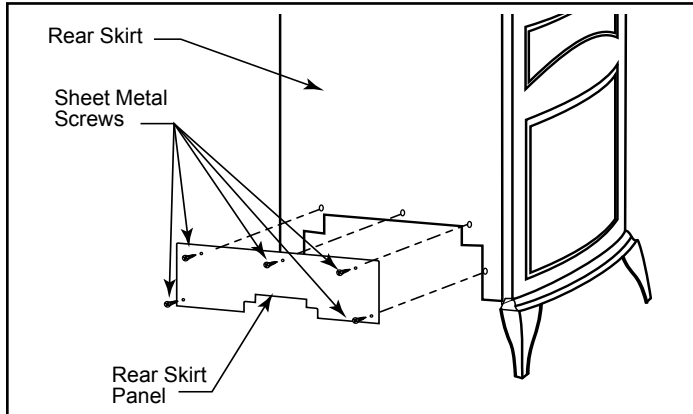
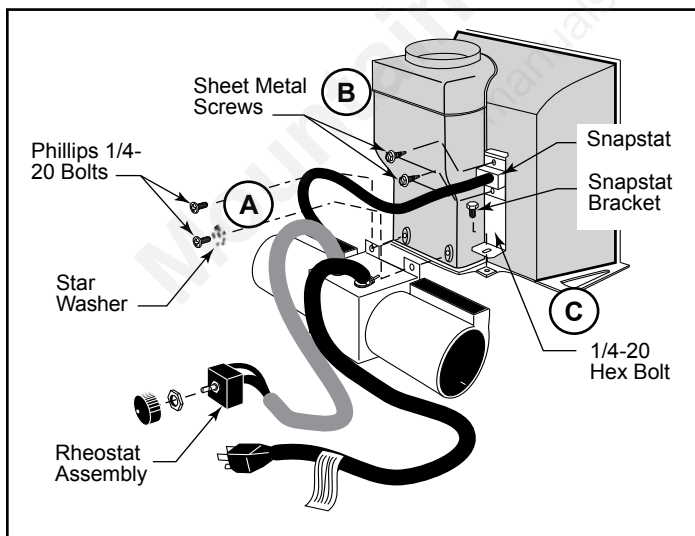

Figure 40 - Remove rear skirt panel.
Figure 44 - Attach fan assembly and snapstat.
1. Remove the panel at the bottom of the rear skirt (Figure 40) and remove two (2) Phillips head bolts from the bottom of the firebox back. Fasten the blower assembly to the firebox back with two (2) Phillips head bolts and one (1) 1/4" star washer. ('A', Figure 44)
2. Attach the snapstat assembly to the snapstat bracket with two (2) sheet metal screws. ('B', Figure 44) Attach the snapstat bracket to the stove with a hex head bolt passing through the bracket and into the stove base. ('C', Figure 44)